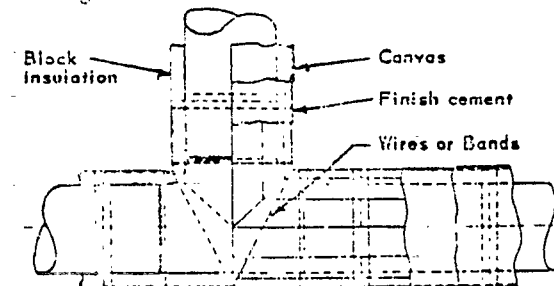

FIGURE 7
7.2 Welded fittings and valves, three inches and larger shall be insulated with block or pipe insulation at least equal in thickness and in the same number of layers as adjacent pipe insulation. See Figures 7 and 8.